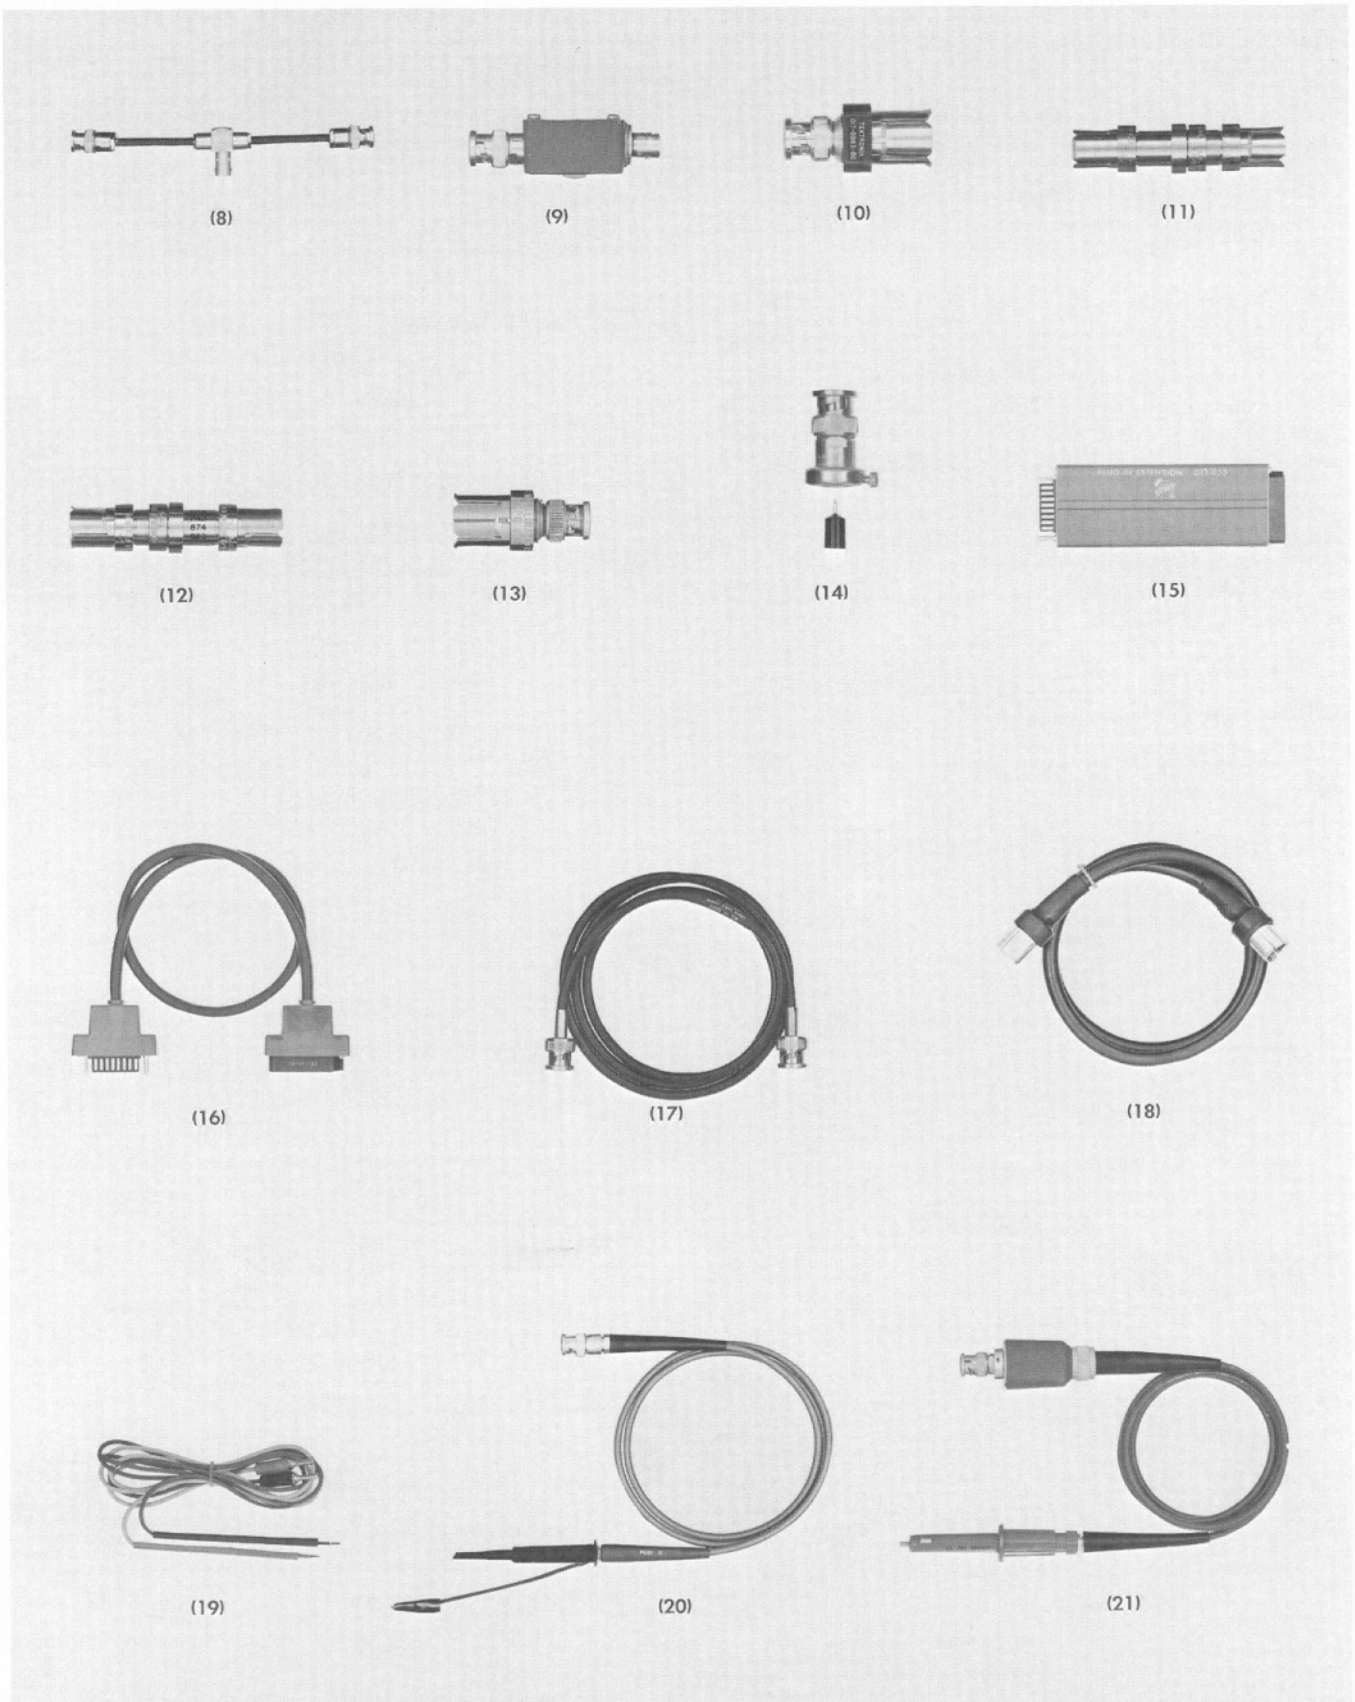

Fig. 7-2. Equipment required for the calibration of the Type 1A4.
Fig. 7-2 shows the calibration fixtures (items 8 through 21) that are used in this procedure. All fixtures except item 19 have a Tektronix part number and can be ordered through your local Tektronix Field Office or representative. Item 19 is a standard item that can be purchased locally.
Calibration Fixtures (Fig. 7-2)